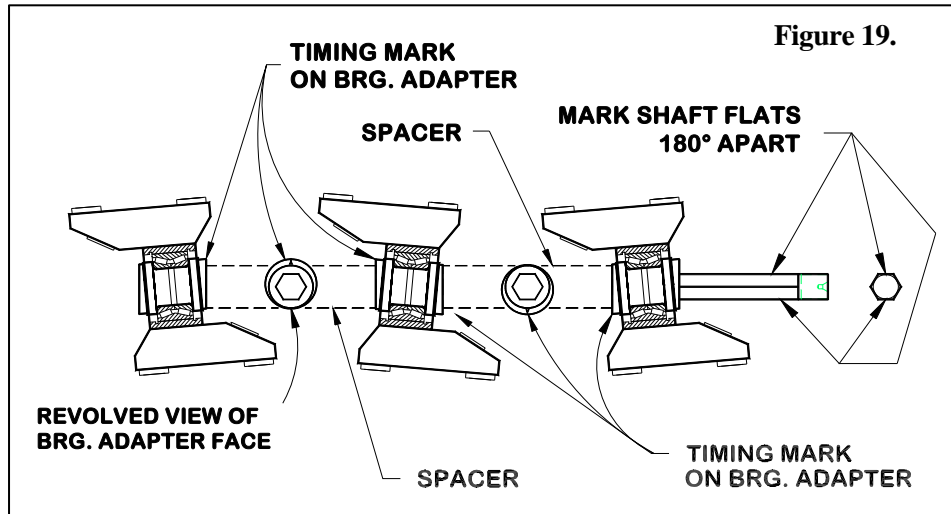

Figure 19.
2. Use marker pen to assist with aligning timing marks between rotors. Mark two rotor shaft flats 180 degrees apart next to the threaded end (See Figure 19). The marked flats must align with the timing marks on any rotors not removed during servicing.